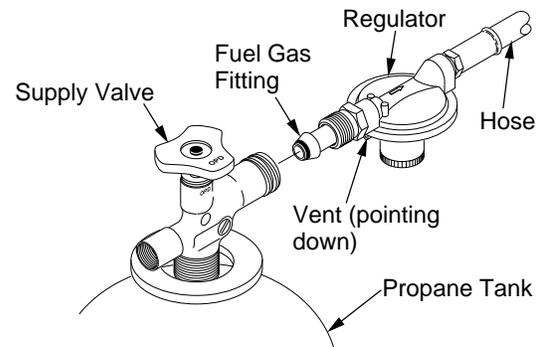

Figure 2 - Regulator With Vent Pointing Down
2. Connect fuel gas fitting on hose/regulator assembly to propane tank(s). See Figure 2. Turn fuel gas fitting counterclockwise into threads on tank. Tighten firmly using a wrench. **IMPORTANT:** Tighten regulator with vent pointing down. Pointing vent down protects regulator from weather damage.